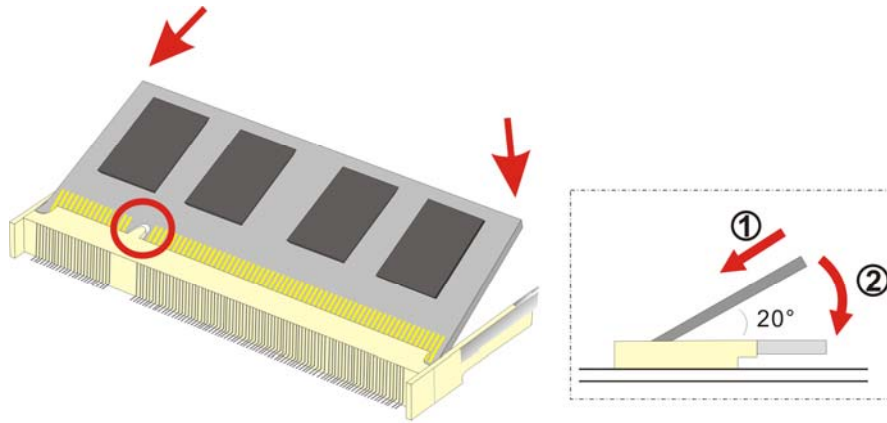

Figure 4-2: DDR SO-DIMM Module Installation
- Step 5:** Install the new memory module by inserting it at an angle, then pushing down until the clips snap into place (Figure 4-2).